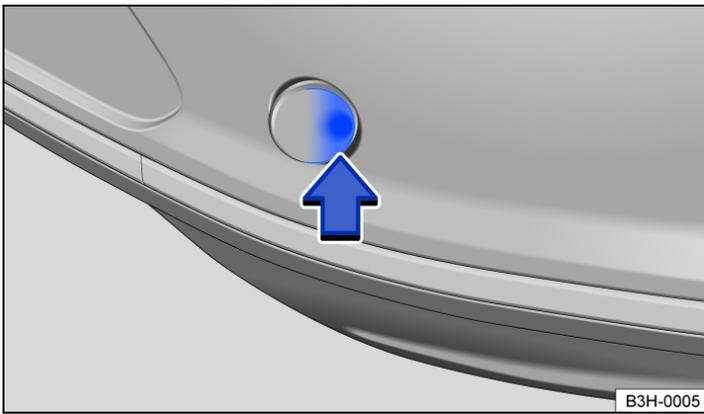

Fig. 1 On the right-hand side of the rear bumper: removing the cover.
- Push the side area of the cover in the direction of the arrow to release the cover → *Fig. 1*.